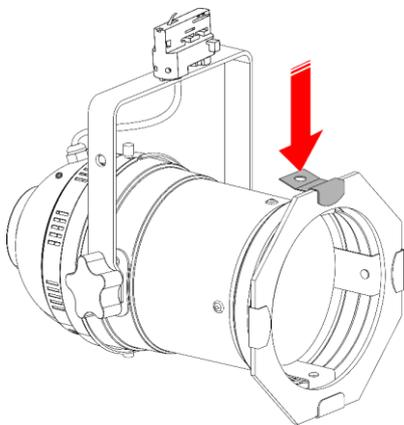
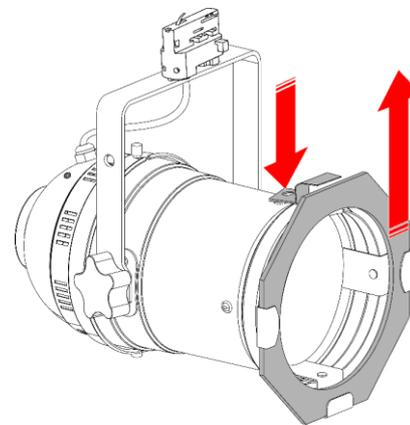

Fig. 15
Fig. 16
- 01) Press the **color frame clip (05)** and at the same time remove the **color frame (06)** from the **color frame holders (07)** (see Fig. 15 and Fig. 16).